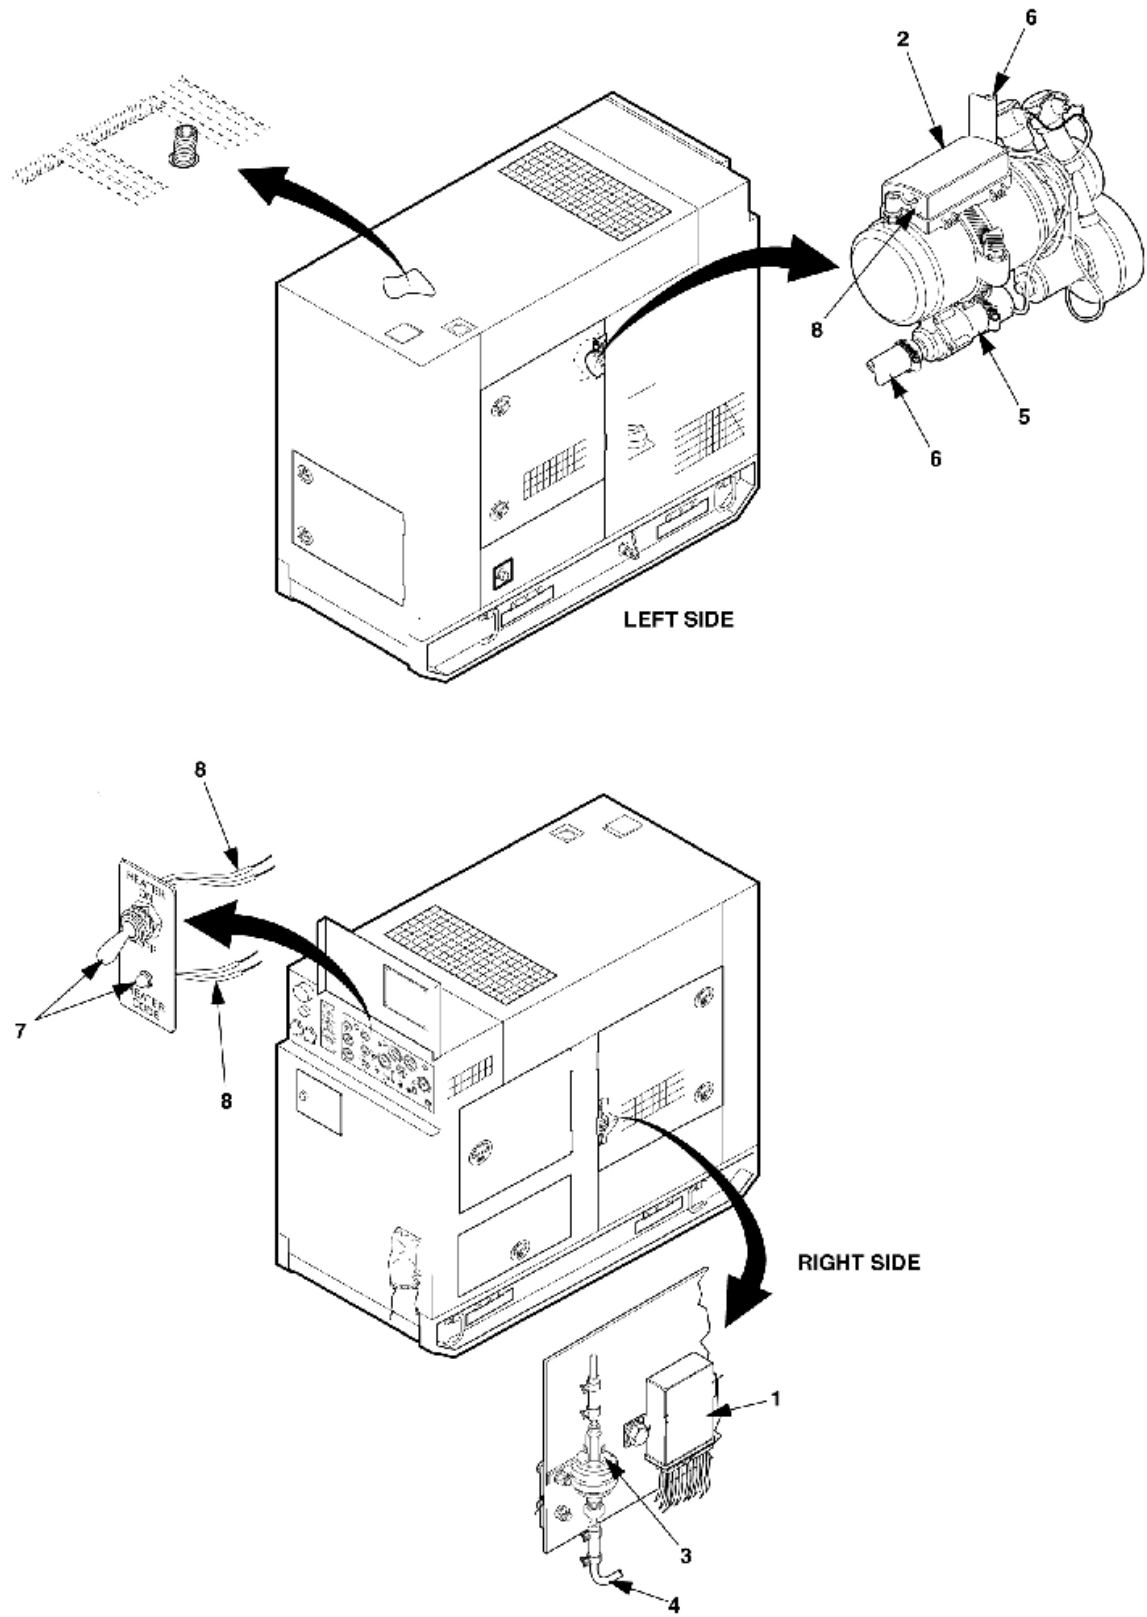

Figure 1-1. Location of Major Components for 15kW (MEP-804A, MEP-814A).
Figure 1-1 illustrates the major components of the kit and shows their locations on the 15kW Tactical Quiet Generator Set. (Refer to table 1-1 for item names).
**2-1.1.1 Heater Indicator Light.** A light at the heater ON-OFF switch (item 7, figure 1-1) lights when the heater is operating. The light also serves as a troubleshooting code light (See paragraph 3-1.1).